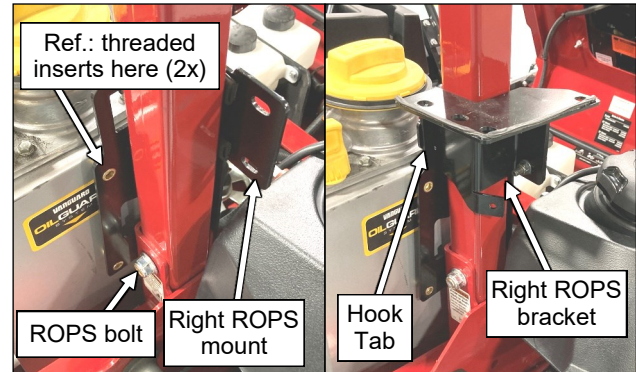

Fig. 3.1 (Install right side ROPS mount)
- 3.1 See fig. 3.1. Remove the 1/2" bolt and nut from the bottom of the right side of the vehicle ROPS. Install the right side ROPS mount with the 1/2" bolt through the bracket and the ROPS. Install the nut loosely onto the bolt.